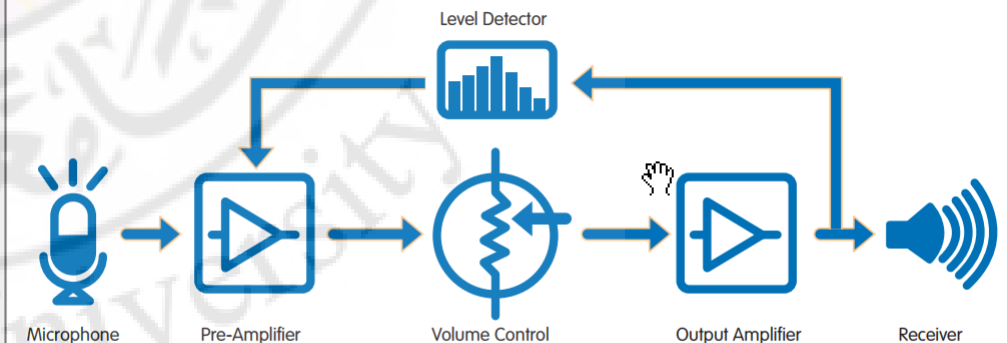

Figure 2-13
- ❑ In output-controlled compression (AGC-o), the level detector is located after the volume control (Figure 2-13) and compression acts on the output of the hearing aid. That is, the compressor is activated once the output exceeds the TK.